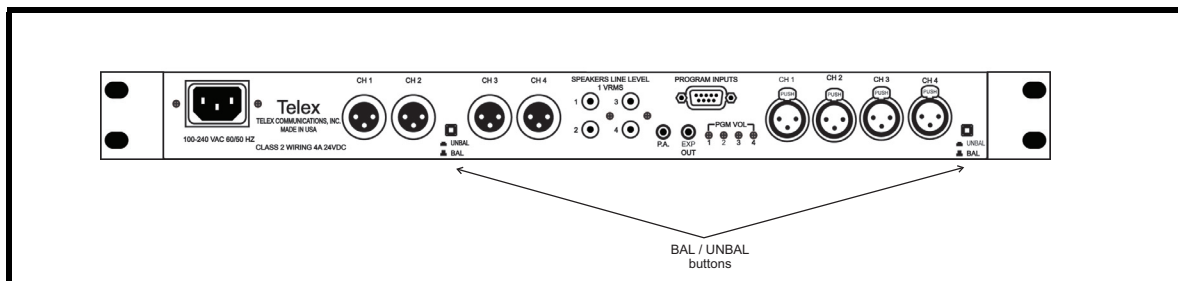

Figure 2. MS-4002 Back Panel Balanced and Unbalanced Operation Switches
**NOTE:** There are two (2) switches on the MS-4002 unit that control the Balanced/Unbalanced operation. You must set both of these switches in the same position for proper operation, see Figure 2.